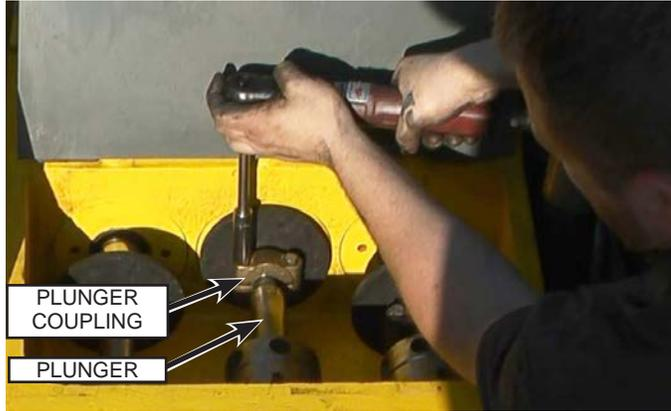

Fig. 154: Plunger Coupling Removal
2. Open the rod box cover and remove the two capscrews that secure the plunger coupling (Fig. 154) to the plunger and remove the coupling.